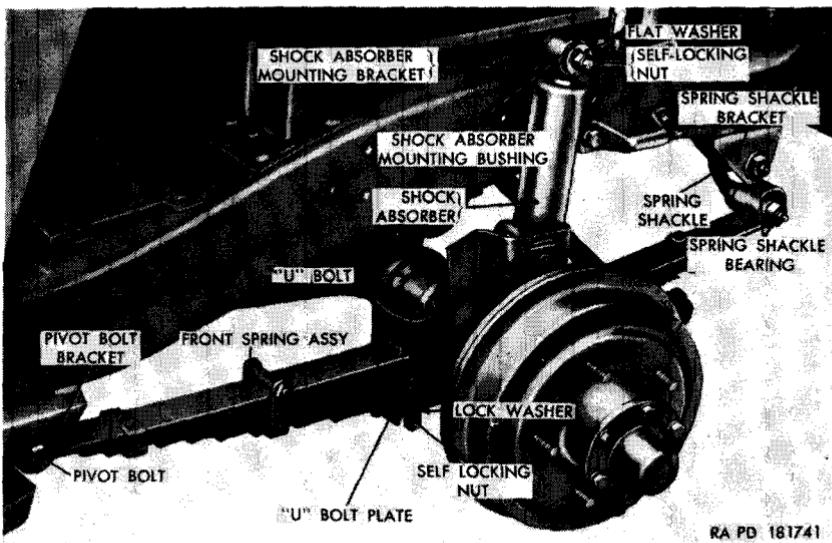
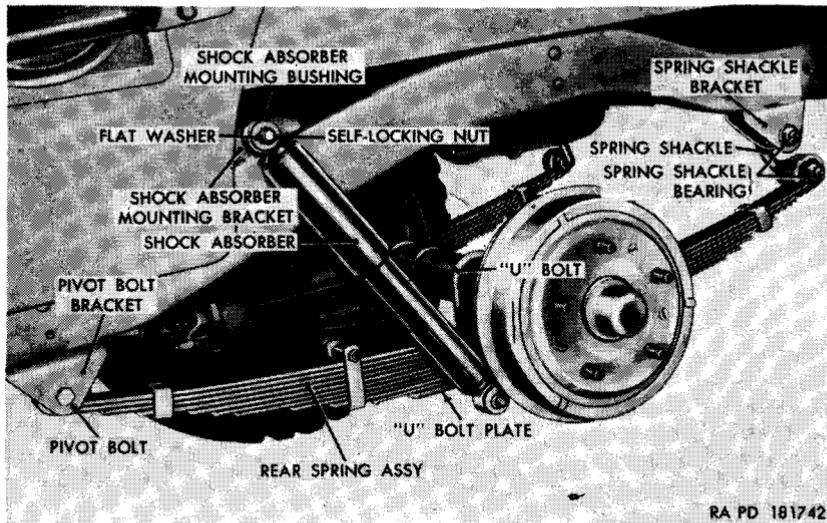
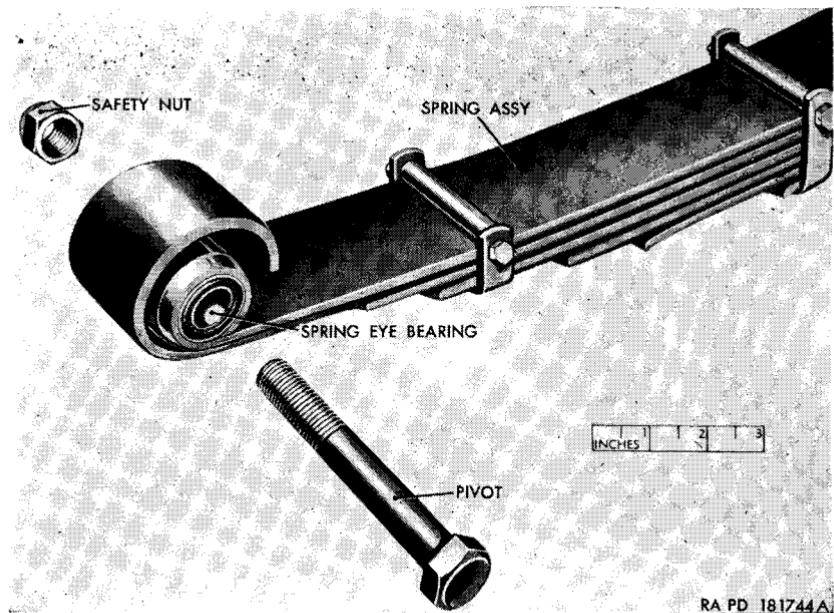

Figure 119. Front spring installed—right side shown.
Figure 120. Rear spring installed—left side shown.
Figure 122. Pivot bolt and spring.
a. Description. (figs. 119 and 120).
- (1) *Springs.* The semielliptic front and rear springs are mounted lengthwise in the vehicle. The front springs are secured at the front of the frame by a spring shackle and at the rear by a pivot bolt. The rear springs are secured at the front of the frame by a pivot bolt and at the rear by a spring shackle.
- (2) *Shock absorbers.* The shock absorbers are two-way control, direct acting hydraulic cylinder units. The rear shock absorbers are secured at the top end by a bracket welded to the frame and at the bottom end to the spring by a U-bolt plate. The front shock absorbers are secured at the top end by a bracket welded to the frame and at the bottom by a spring and shock absorber mounting seat. The shock absorbers are nonadjustable and nonrefillable.
(figs. 119 and 120)
- (1) Jack up vehicle high enough to take load off springs and support vehicle with safety stands or suitable blocking.
- (2) Unscrew the safety nut from the pivot bolt and withdraw bolt from spring eye bearing (fig. 122) and pivot bolt bracket (figs. 119 and 120).
- (1) Position the spring assembly at the pivot bolt bracket (fig. 119 or 120). Aline the hole in spring eye bearing (fig. 122) with the hole in the pivot bolt bracket and insert the pivot bolt through the bracket and spring eye bearing from the outside. Secure the pivot bolt in position with a $\frac{3}{8}$ -inch safety nut (fig. 120).
- (2) Remove the safety stands or blocking and lower vehicle to ground.
- (1) Place a jack under the axle housing and raise vehicle until both wheels clear the ground. Place safety stands or suitable blocking under bumper to support weight of vehicle. Adjust the height of the jack under the axle housing to relieve the tension on the spring.
- (2) Remove spring shackle (par. 250).
- (3) Remove pivot bolt (par. 251).
- (4) Remove the self-locking nut and flat washer securing the shock absorber to the U-bolt plate (fig. 120), or spring and shock absorber mounting seat (fig. 119), and pull shock absorber free from plate or seat.
- (5) Remove the four U-bolt nuts securing the U-bolts and U-bolt plate, or the spring and shock absorber mounting seat. Remove the U-bolt, U-bolt plate, or spring and shock absorber mounting seat and spring.
- (1) Place spring in approximate position under vehicle, raise pivot bolt end of spring, and install pivot bolt (par. 251b(1)).
- (2) Raise spring shackle end of spring into position and install spring shackle (par. 250b(1) through (6)).
- (3) Slowly lower axle onto spring, making certain that spring center bolt enters the recess in spring saddle on the axle. Install the U-bolts over the axle and through the U-bolt plate (fig. 120), or spring and shock absorber mounting seat (fig. 119), and install the four $\frac{1}{16}$ -inch U-bolt nuts.
- (4) Position the lower or small end of the shock absorber on the stud of the U-bolt plate, or spring and shock absorber mounting seat, and secure in position with a $\frac{1}{2}$ -inch flat washer and $\frac{1}{16}$ -inch self-locking nut.
- (5) Remove the safety stands or blocking and lower vehicle to ground.
- (6) Rock vehicle back and forth to flex springs and tighten safety nut on pivot bolt to torque of 27 to 30 pound-feet.
- (7) Lubricate spring shackles (par. 66).
- (8) Road-test vehicle and check for tight spring shackles. If too tight, remove and again install spring shackle bearings (par. 250).